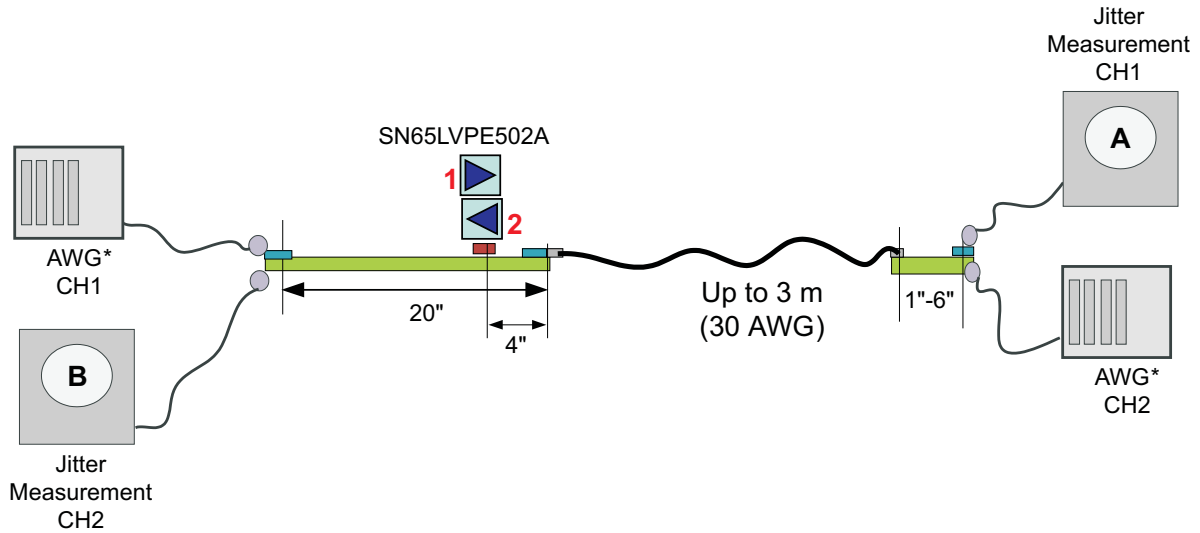

Figure 6. Jitter Measurement Setup
- (1) Includes RJ at  $10^{-12}$  BER
- (2) Deterministic jitter measured with K28.5 pattern, Random jitter measured with K28.5 pattern at the ends of reference channel in Figure 6, VID=1000mVpp, 5Gbps, -3.5dB DE from source
- (3) UI = 200ps
- (4) Rj calculated as 14.069 times the RMS random jitter for  $10^{-12}$  BER